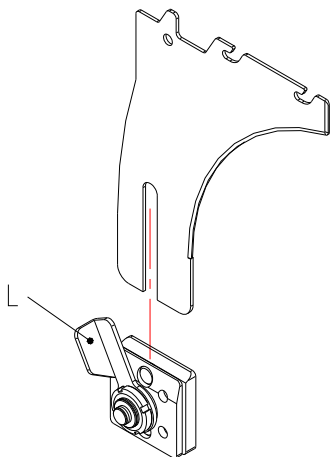
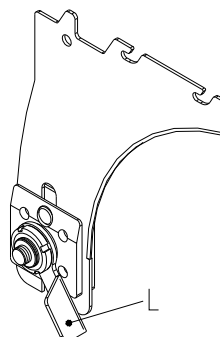

Fig. 13
Fig. 14
The handle(L) should keep up as Fig.13. When install the riving knife. Then fix the handle(L) by rotation after riving knife installation as Fig.14.